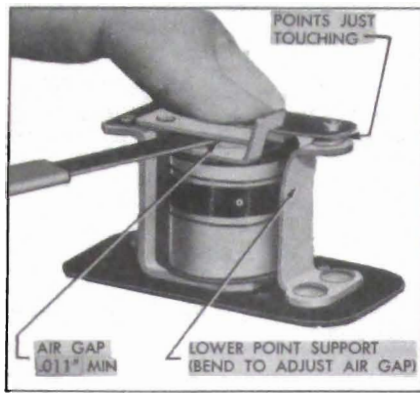

Figure 10-35—Relay Air Gap Adjustment
2. Push relay armature down until contact points just touch, then check air gap between armature and core with feeler gauges. Air gap should be .011" minimum and may be adjusted, if necessary, by bending the lower point support. See figure 10-35.